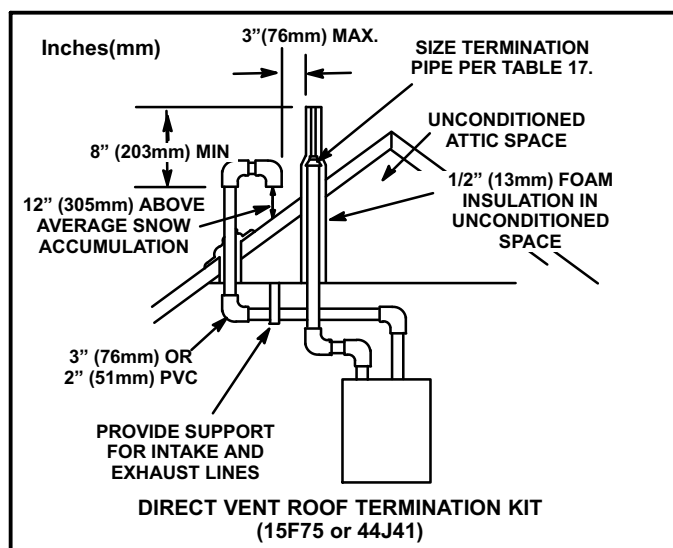

FIGURE 37
Intake and exhaust pipes may be routed either horizontally through an outside wall or vertically through the roof. In attic or closet installations, vertical termination through the roof is preferred. Figures 37 through 51 show typical terminations.
3. On roof terminations, the intake piping should terminate straight down using two 90° elbows (See figure 37).